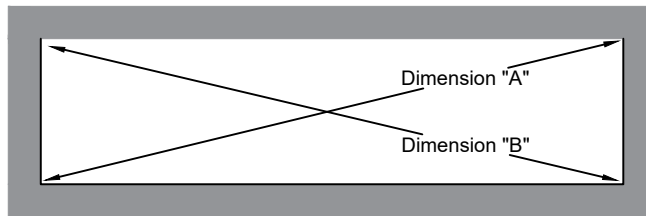

Fig.1.1
- A. Make sure the opening is square and plumb. Measure each diagonal of the opening. **SEE Fig.1.1.**